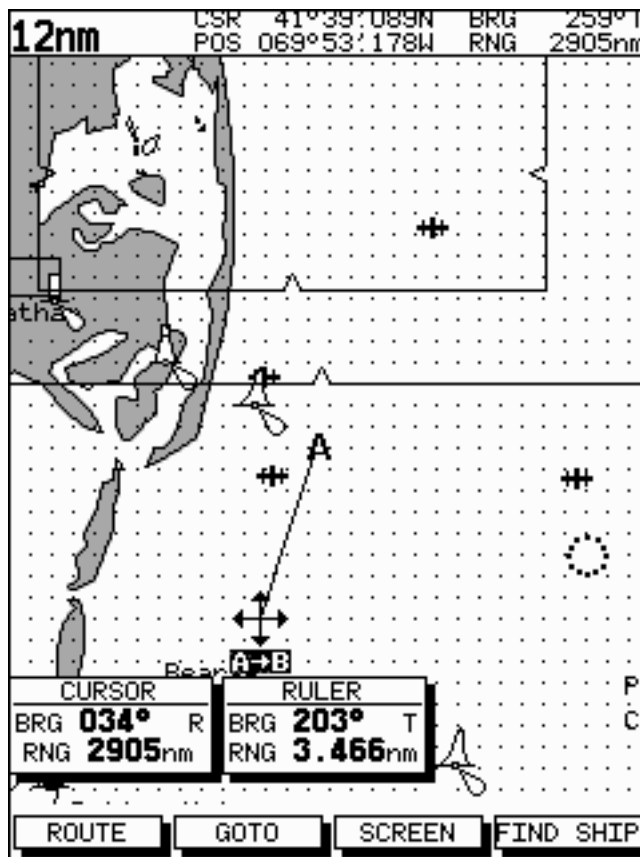

Figure 4-1: Measuring Distance Using a VRM
3. Use the trackpad to move the cursor to the measurement end point. A line connects the cursor to the starting point, and the Ruler data box is updated to show the bearing and length of the line as shown in *Figure 4-1*.